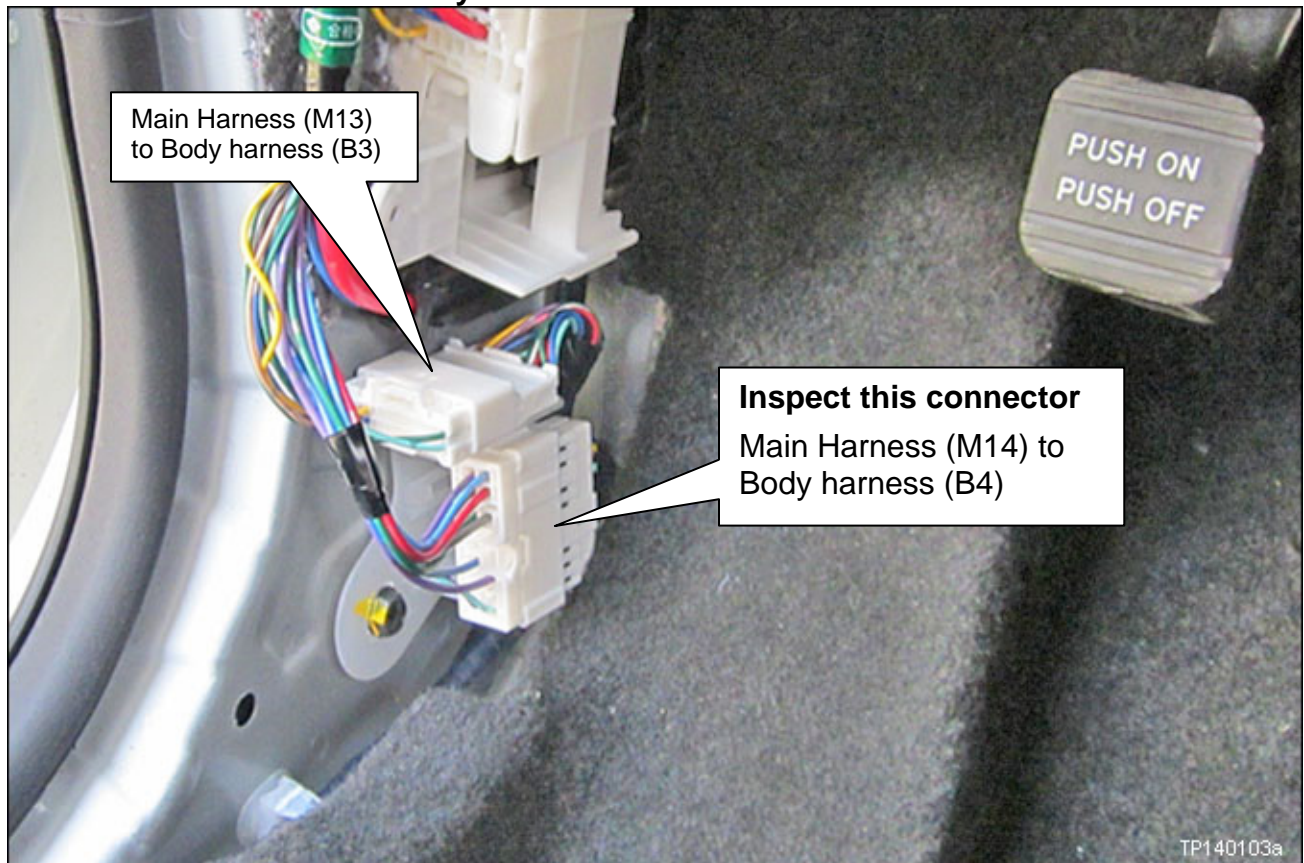

Figure 1
3. Inspect connector Main Harness M14 to Body Harness B4 (see Figure 1).